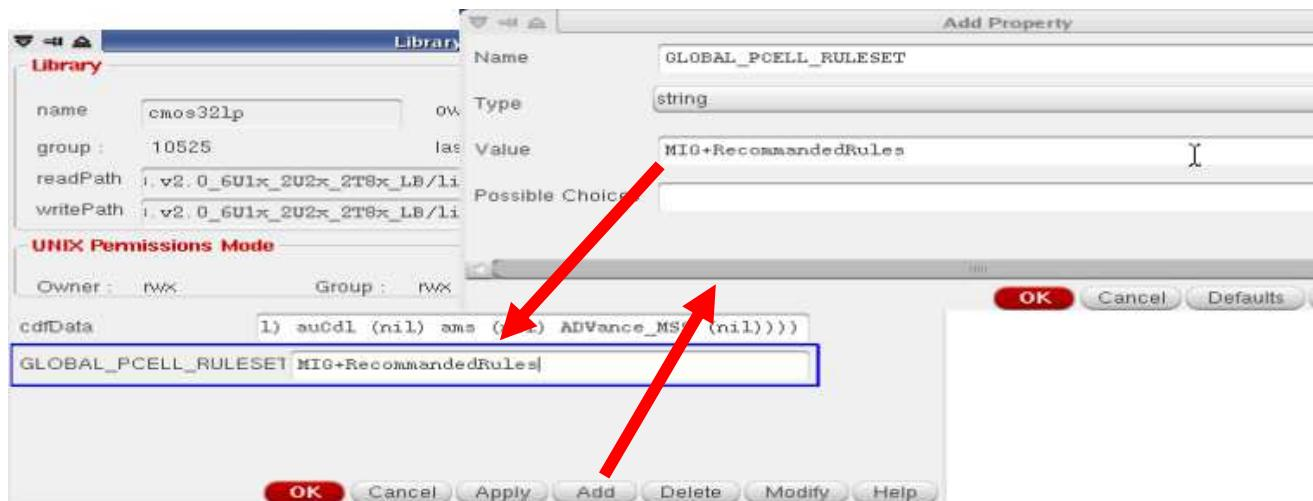

Figure 4: Setup of installation specific PCell rule set defaults
2. Create a string property named GLOBAL_PCELL_RULESETS on the library and use the PCell rule set string from 1. as value (see Figure 4).